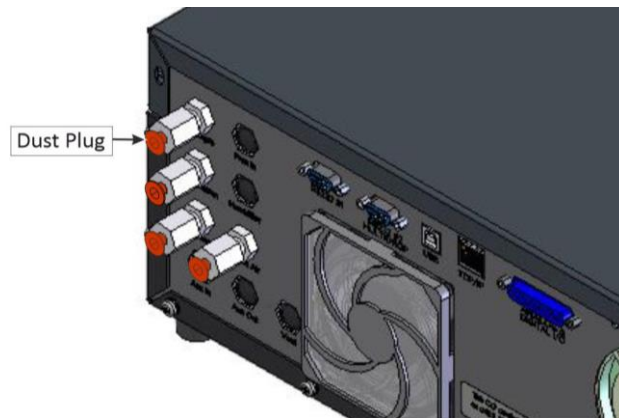

Figure 26 – Dust Plugs
1. Refer to Figure 26. Remove all the dust plugs.